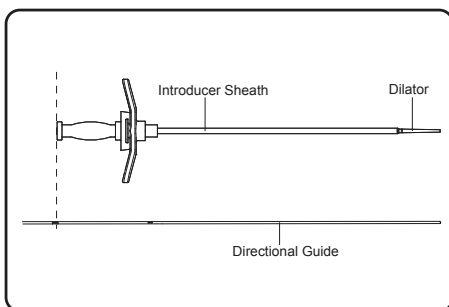

Figure 10. Align the dilator sheath hub with the appropriate mark on the directional guide
5. Hold the directional guide in place at the incision. Place the dilator and introducer sheath over the directional guide and advance them into the foramen. The third most proximal depth marker on the directional guide should be aligned with the top of the dilator (**Figure 10**). If available, confirm with fluoroscopy that the introducer sheath radiopaque marker is 1/2-2/3rd the way through the sacral plate